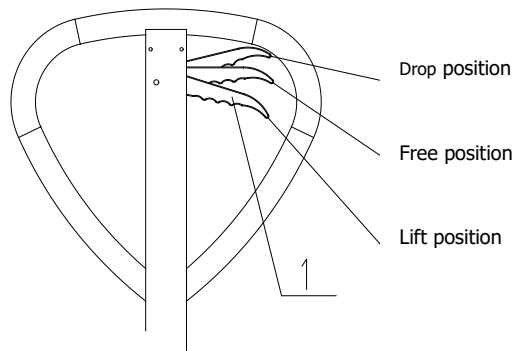

Fig. 5
- 4.1 After the truck is assembled, try to rock the hand grip and operate different positions of control handle knob 1 to examine the lifting, free position and dropping and check that whether the different positions are normal or not. See fig 5.
- 5.3 See fig 5, when hand knob 1 is placed on the lift position, the truck will be in a state of lift. At this time, if you rock the hand grip, the truck will be lifted.
- 5.4 See fig 5, when hand knob 1 is placed on the free position, the truck will travel. At this time, if you rock the hand grip, the truck will neither lift nor drop. Then, you can use the truck to move the cargo.
- 5.5 See fig 5, when the hand knob 1 is placed on the drop position, truck forks will drop. At this time, the truck forks will drop automatically.